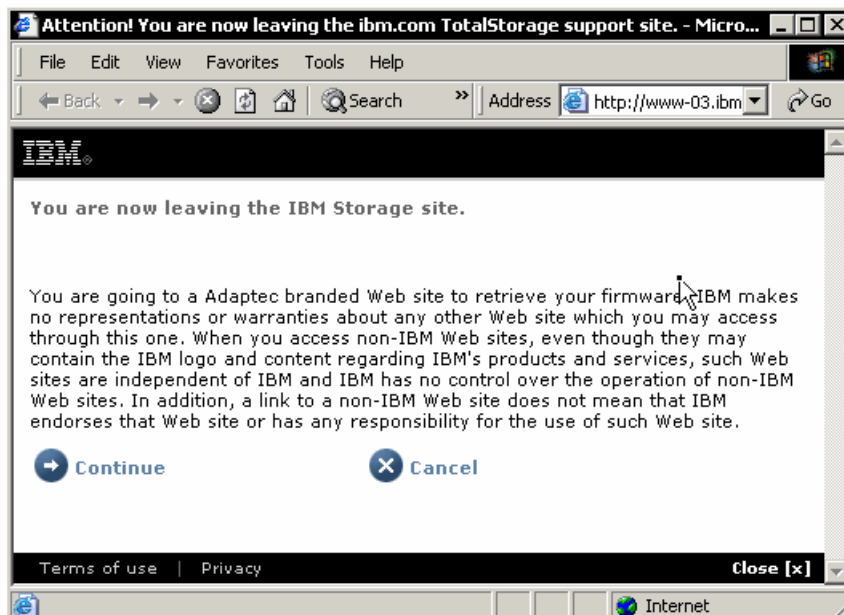

Figure 9 DS400 firmware download redirect
2. Click **Continue** when the message shown in Figure 9 appears warning that you are leaving the IBM Storage Web site.